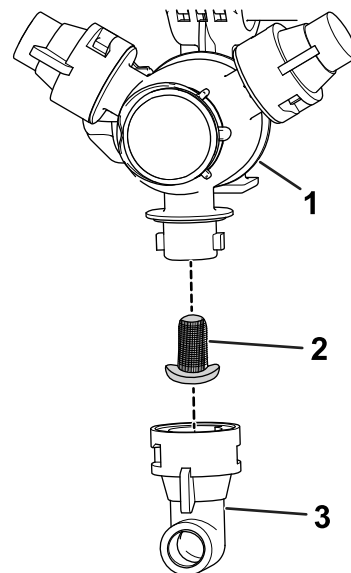

Figure 115
2. Remove the nozzle from the spray turret (Figure 115).
3. Remove the old nozzle filter (Figure 115).
4. Install the new nozzle filter (Figure 115).
5. Install the nozzle onto the spray turret (Figure 115).